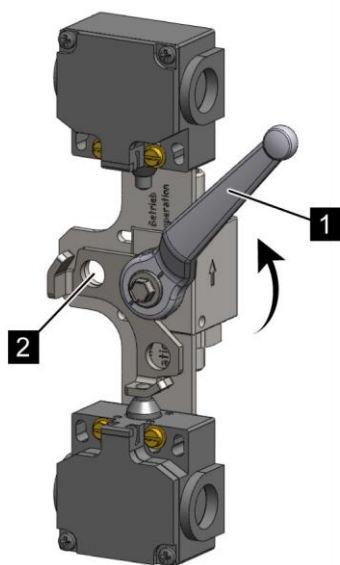

Fig. 29: Resetting the isolation (optionally with 1 or 2 limit switches)
3. ➤ Open and remove the padlock at the locking eye (Fig. 29/2) of the blocking device.
4. ➤ Turn the ball valve (Fig. 29/1) of the blocking device as far as it will go in counterclockwise direction (Fig. 29/arrow).
5. ➤ Hook the padlock into the locking eye (Fig. 29/2) of the blocking device and lock it.